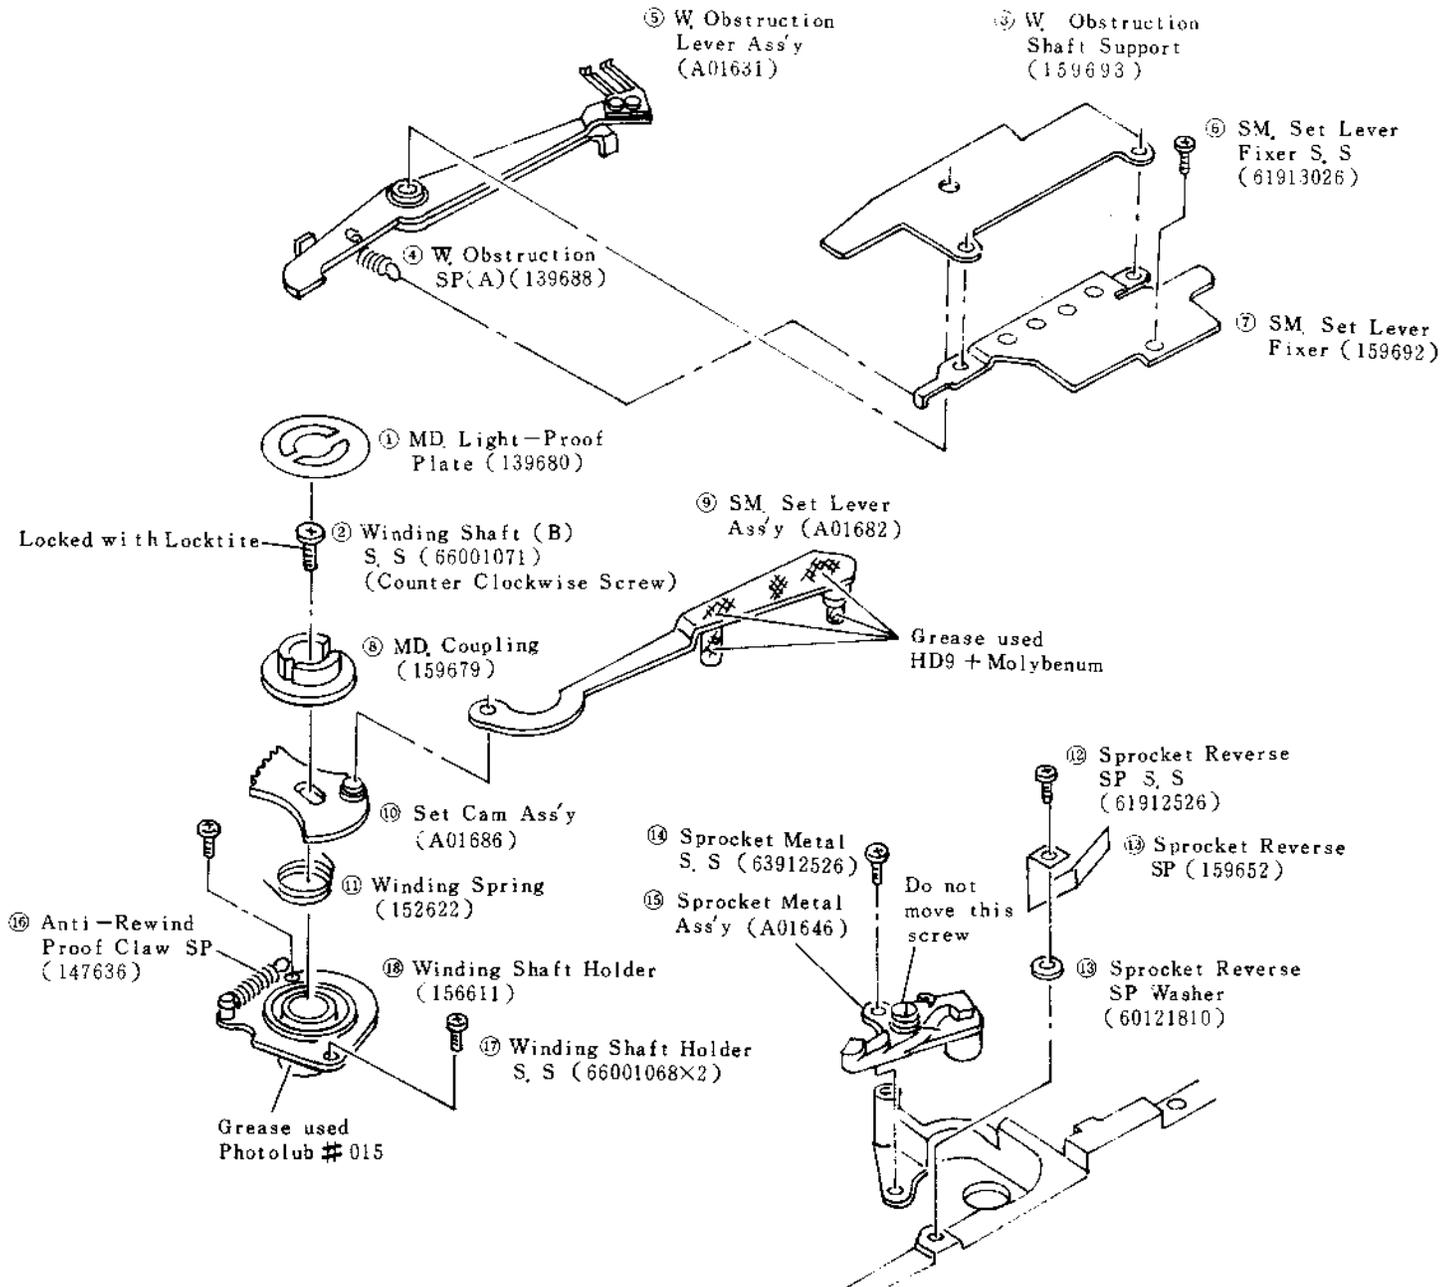

Fig 25
a) Remove the respective parts ① ~ ⑯ shown in (Fig 25) in numerical order.
See (Fig 25).